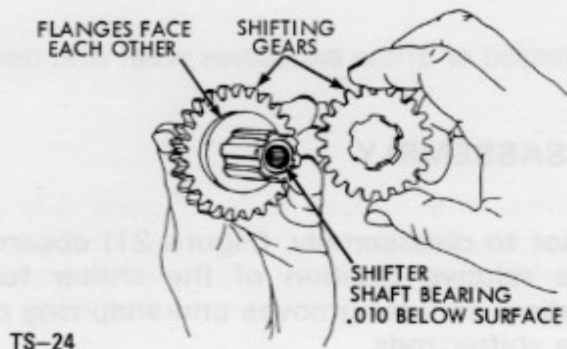

Figure 24 - Two Flanged Gears onto Shifter Shaft
2. Assemble the shifter shaft (Figure 24) by inserting the needle bearing end through first the larger gear then the smaller gear. The fork flanges must face each other.